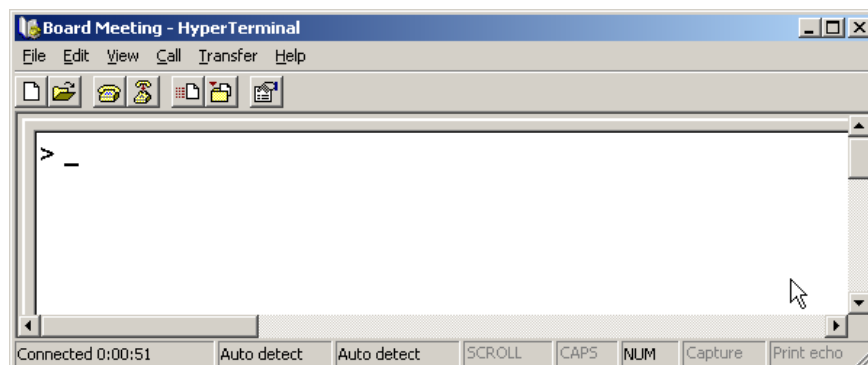

Figure 2-7. Hyperterminal Window (Sample)
8. Select the phone icon to connect the PC to the SuperView 4000-4/4. (See Figure 2-7).